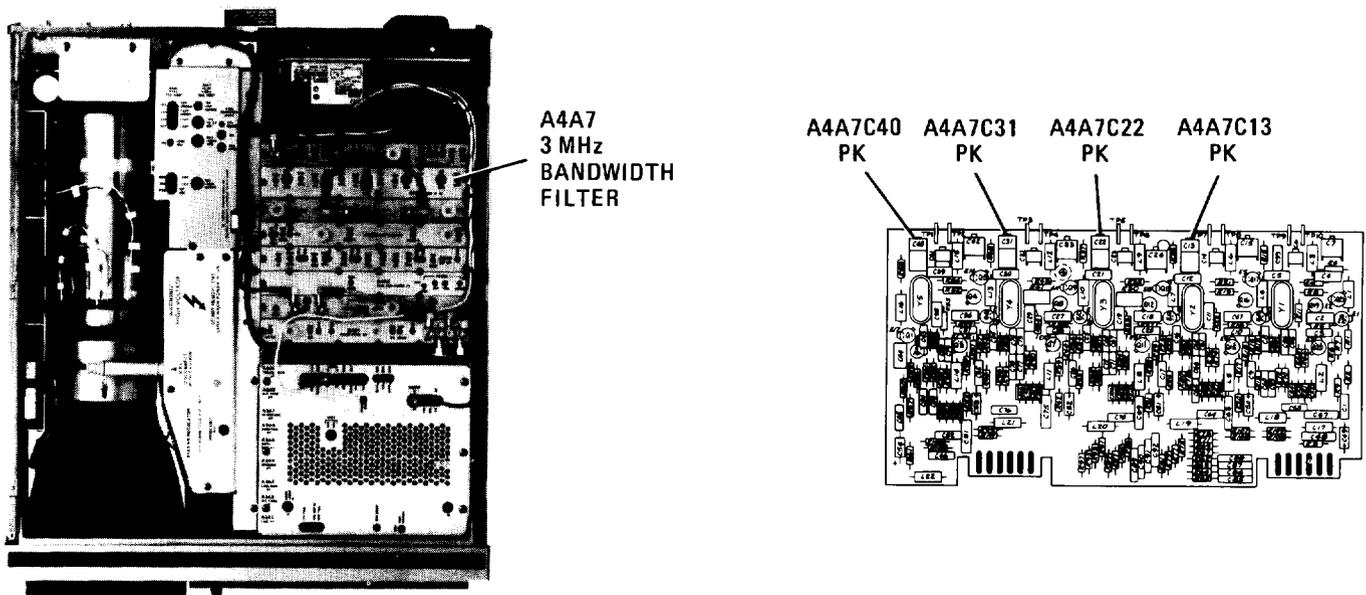

FIGURE 25. LOCATION OF 3 MHz PEAK ADJUSTMENTS
25. Adjust A4A7C13 PK for maximum peak-to-peak signal on Channel B display. Refer to Figure 25 for location of adjustment. If unable to achieve a "peak" in signal amplitude, increase or decrease value of A4A7C12. Refer to Table 3 for range of values.
28. Adjust A4A7C22 PK for maximum peak-to-peak signal on Channel B display. Refer to Figure 25 for location of adjustment. If unable to achieve a "peak" in signal amplitude, increase or decrease value of A4A7C21. Refer to Table 3 for range of values.
31. Adjust A4A7C31 PK for maximum peak-to-peak signal on Channel B display. Refer to Figure 25 for location of adjustment. If unable to achieve a "peak" in signal amplitude, increase or decrease value of A4A7C30. Refer to Table 3 for range of values.
35. Adjust A4A7C40 PK for maximum signal amplitude on the CRT display. Refer to Figure 25 for location of adjustment. If unable to achieve a "peak" in signal amplitude, increase or decrease value of A4A7C39. Refer to Table 3 for range of values.